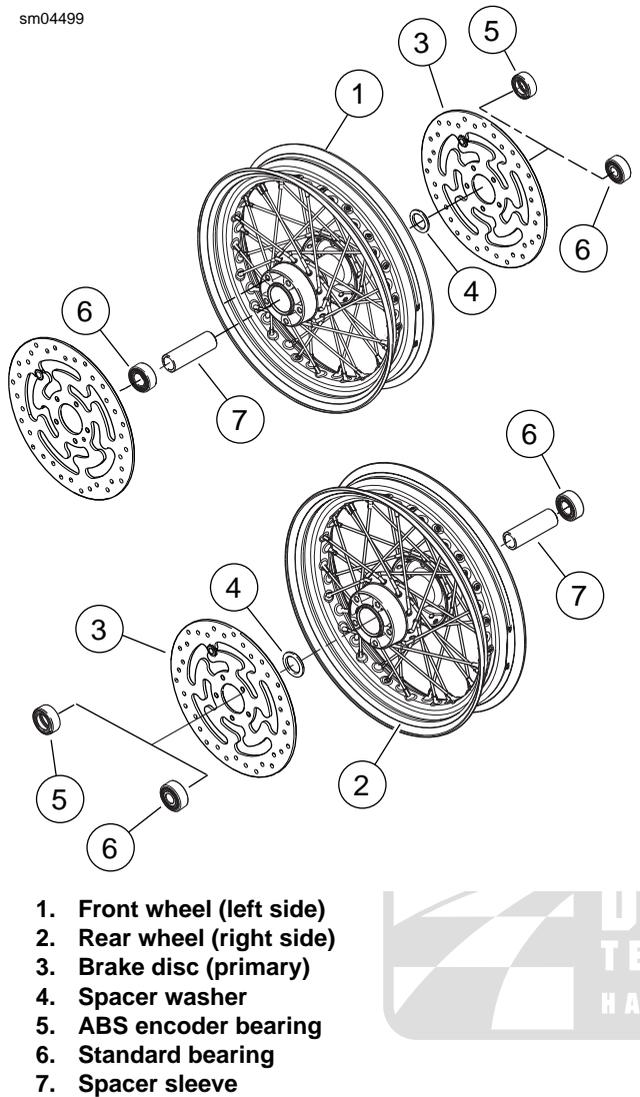

Figure 2-28. Wheel Bearing Assemblies
- j. Remove spacer washer from hub. See Figure 2-28.